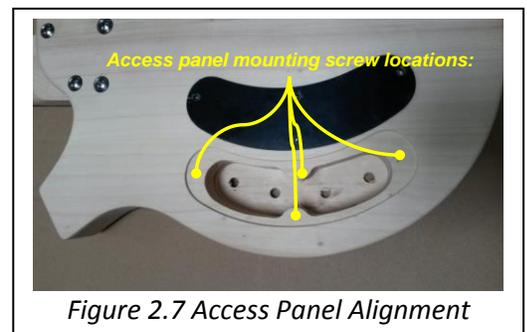

Figure 2.7 Access Panel Alignment
- Mark and pre-drill the four access cover holes (Figure 2.7).